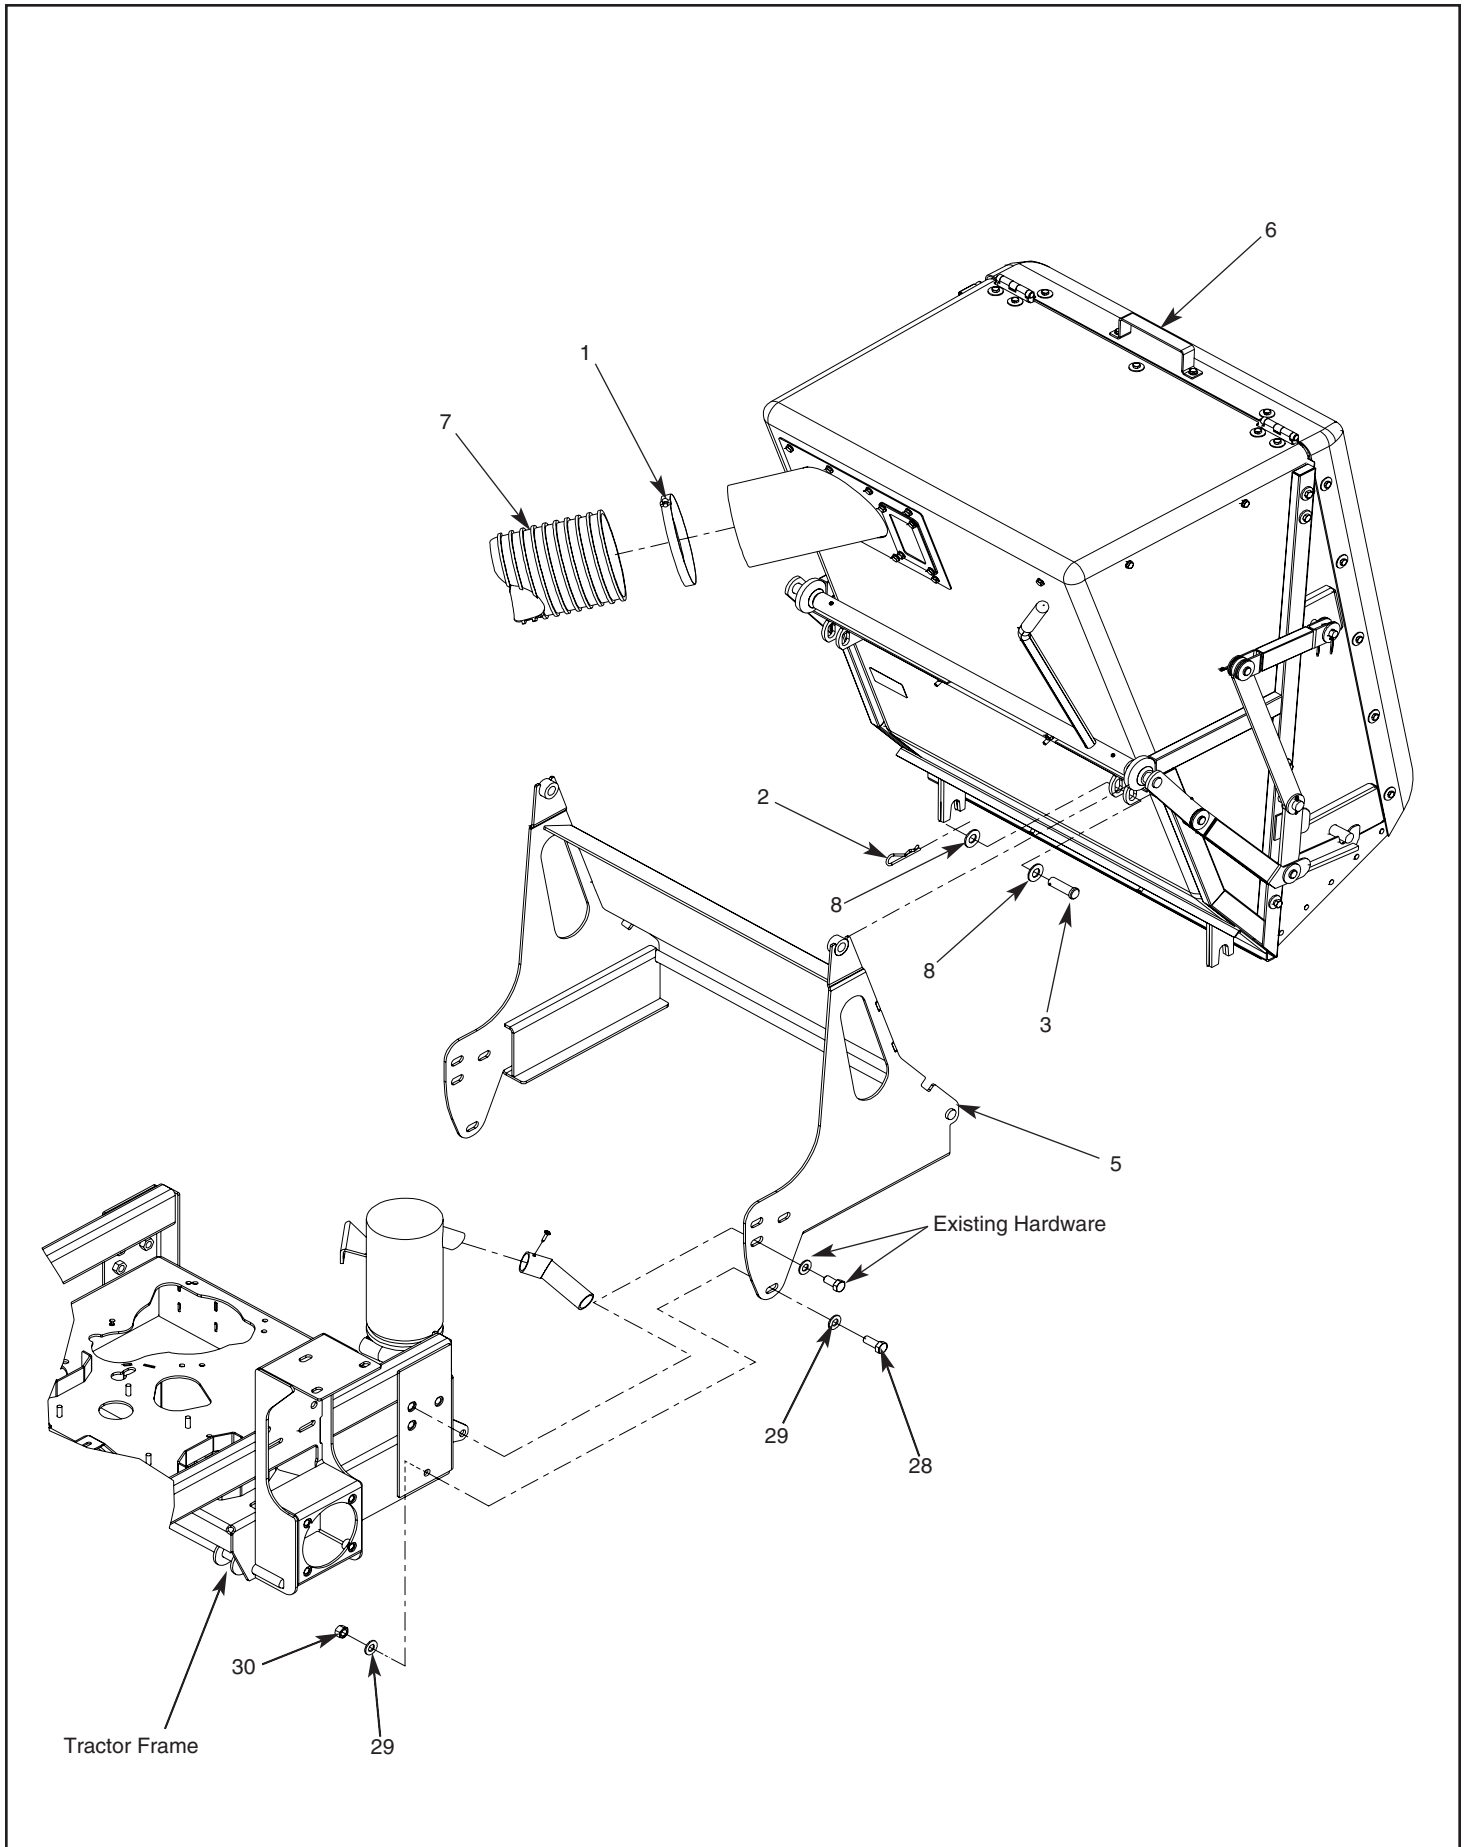
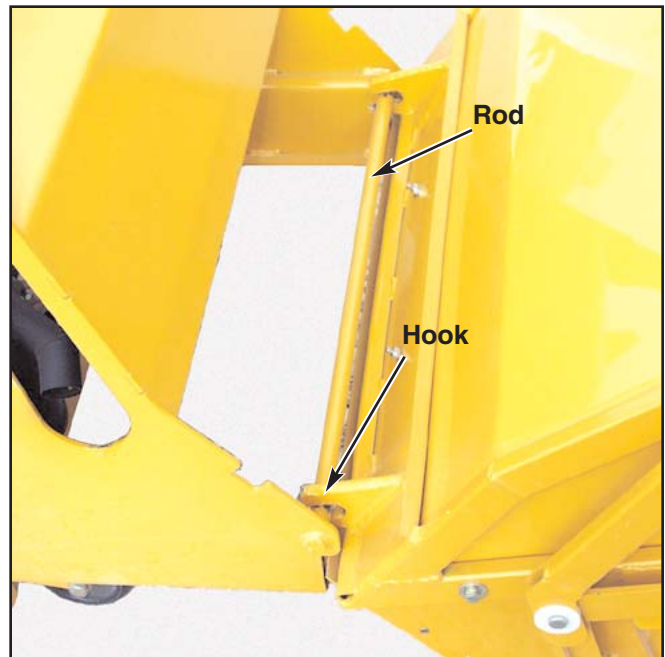

Figure 3-1
Figure 4-5
4. Bolt the mount bracket w/a to the tractor per Fig. 3-1.
6. Secure the hopper to the tractor using the clevis pins and flat washers shown in Fig. 3-1.
1. Attach the BAC-VAC™ flexible tubing (600775) to the blower and to the hopper using the clamps per Fig. 3-1.
To attach the BAC-VAC™: Park the tractor on a flat surface and wheel the BAC-VAC™ to the tractor and slide the hopper's hooks over the rod on the mount bracket per Fig. 4-5. Then, swing the top of the hopper towards the operator's platform. When the BAC-VAC™ is tilted far enough forward it's weight will carry it forward. Insert the clevis pins, flat washers, and hair pins thru the BAC-VAC™ tabs and the mount support on the tractor. Attach the tube to the inlet tube on the BAC-VAC™ and clamp tight (Fig. 3-1).